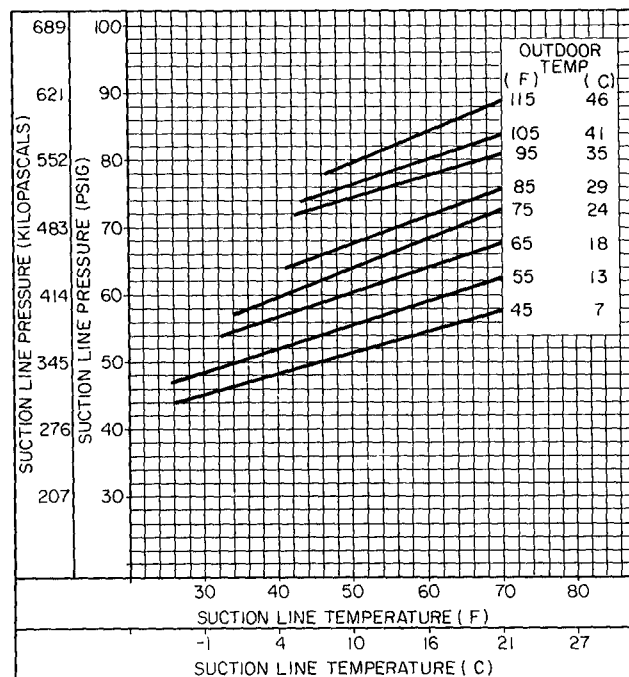

**Fig. 17 — Cooling Charging Chart
**LOW CHARGE COOLING** — Using Cooling Charging Chart, Fig. 17 through 19, vary refrigerant until the conditions of the chart are met. Note the charging chart is different from type normally used. Chart is based on charging the units to the correct superheat for the various operating conditions. Accurate pressure gage and temperature sensing device are required. Connect the pressure gage to the service port on the suction line. Mount the temperature sensing device on the suction line and insulate it so that outdoor ambient temperature does not affect the reading. Indoor air cfm must be within the normal operating range of the unit.